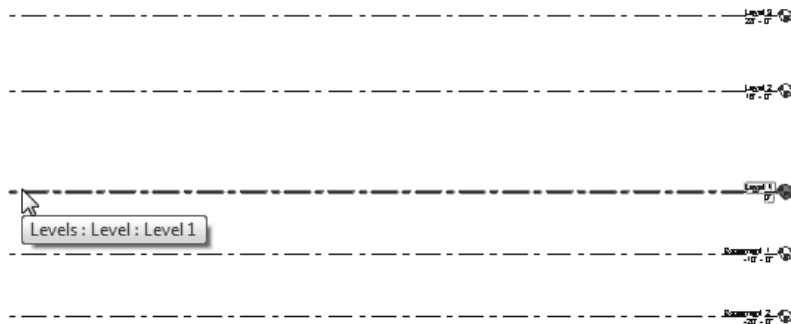

Figure 1–26
8. Change Level 2 to **16'-0"**. Add three more levels above the current levels at **12'-0"** apart. Add two levels below Level 1 and set them **10'-0"** apart. Rename them as **Basement 1** and **Basement 2**, as shown in Figure 1–26.